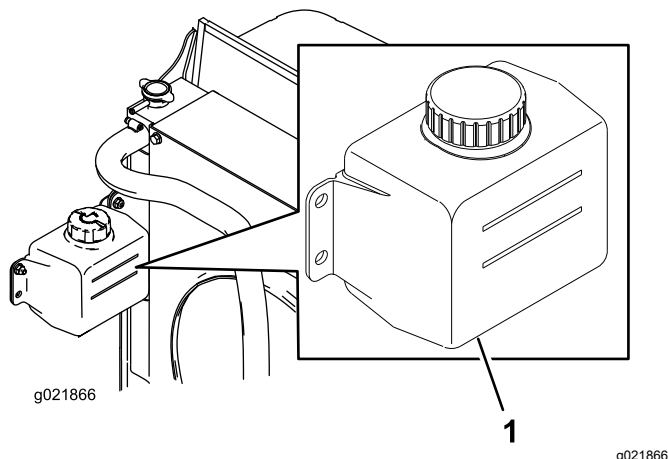

Figure 29
1. Check the level of coolant in the expansion tank (Figure 29).